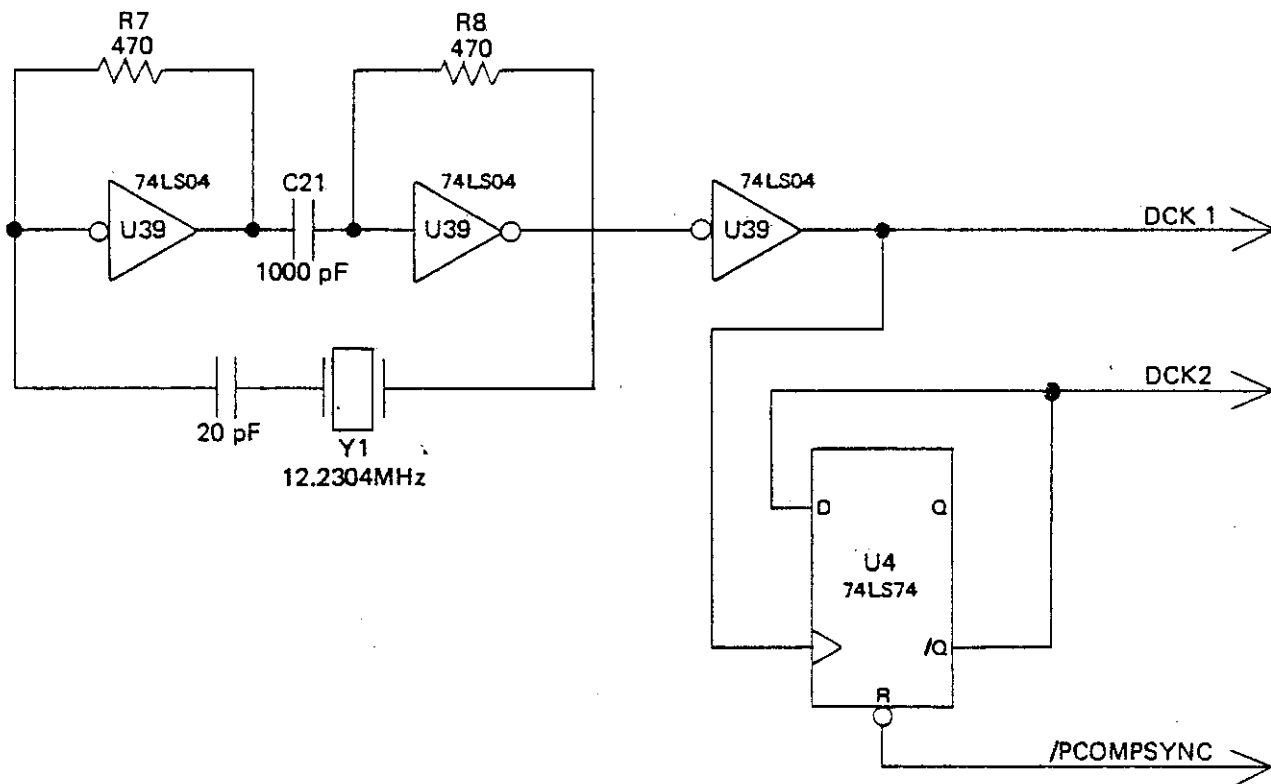

FIGURE III-5 DOT CLOCK
1) DOT CLOCK: The dot clock (Figure III-5) is a crystal-controlled oscillator which generates the basic 12.2304 Mhz timing reference DCK1 for video generation. It consists of two sections of a 74LS04 cascaded to form a non-inverting amplifier. A series resonant crystal establishes the feed-back path to cause oscillation. A third section of the 74LS04 buffers the oscillator output. A 74LS74 D-flip-flop divides the 12.2304 Mhz signal by two to produce the 6.1152 Mhz clock signal DCK2 required for generation of double width (40 per-line) characters. The reset input of this flip-flop is connected to the composite sync signal /PCOMPSYNC to ensure that the flip-flop starts each line in the zero state (DCK2=1).